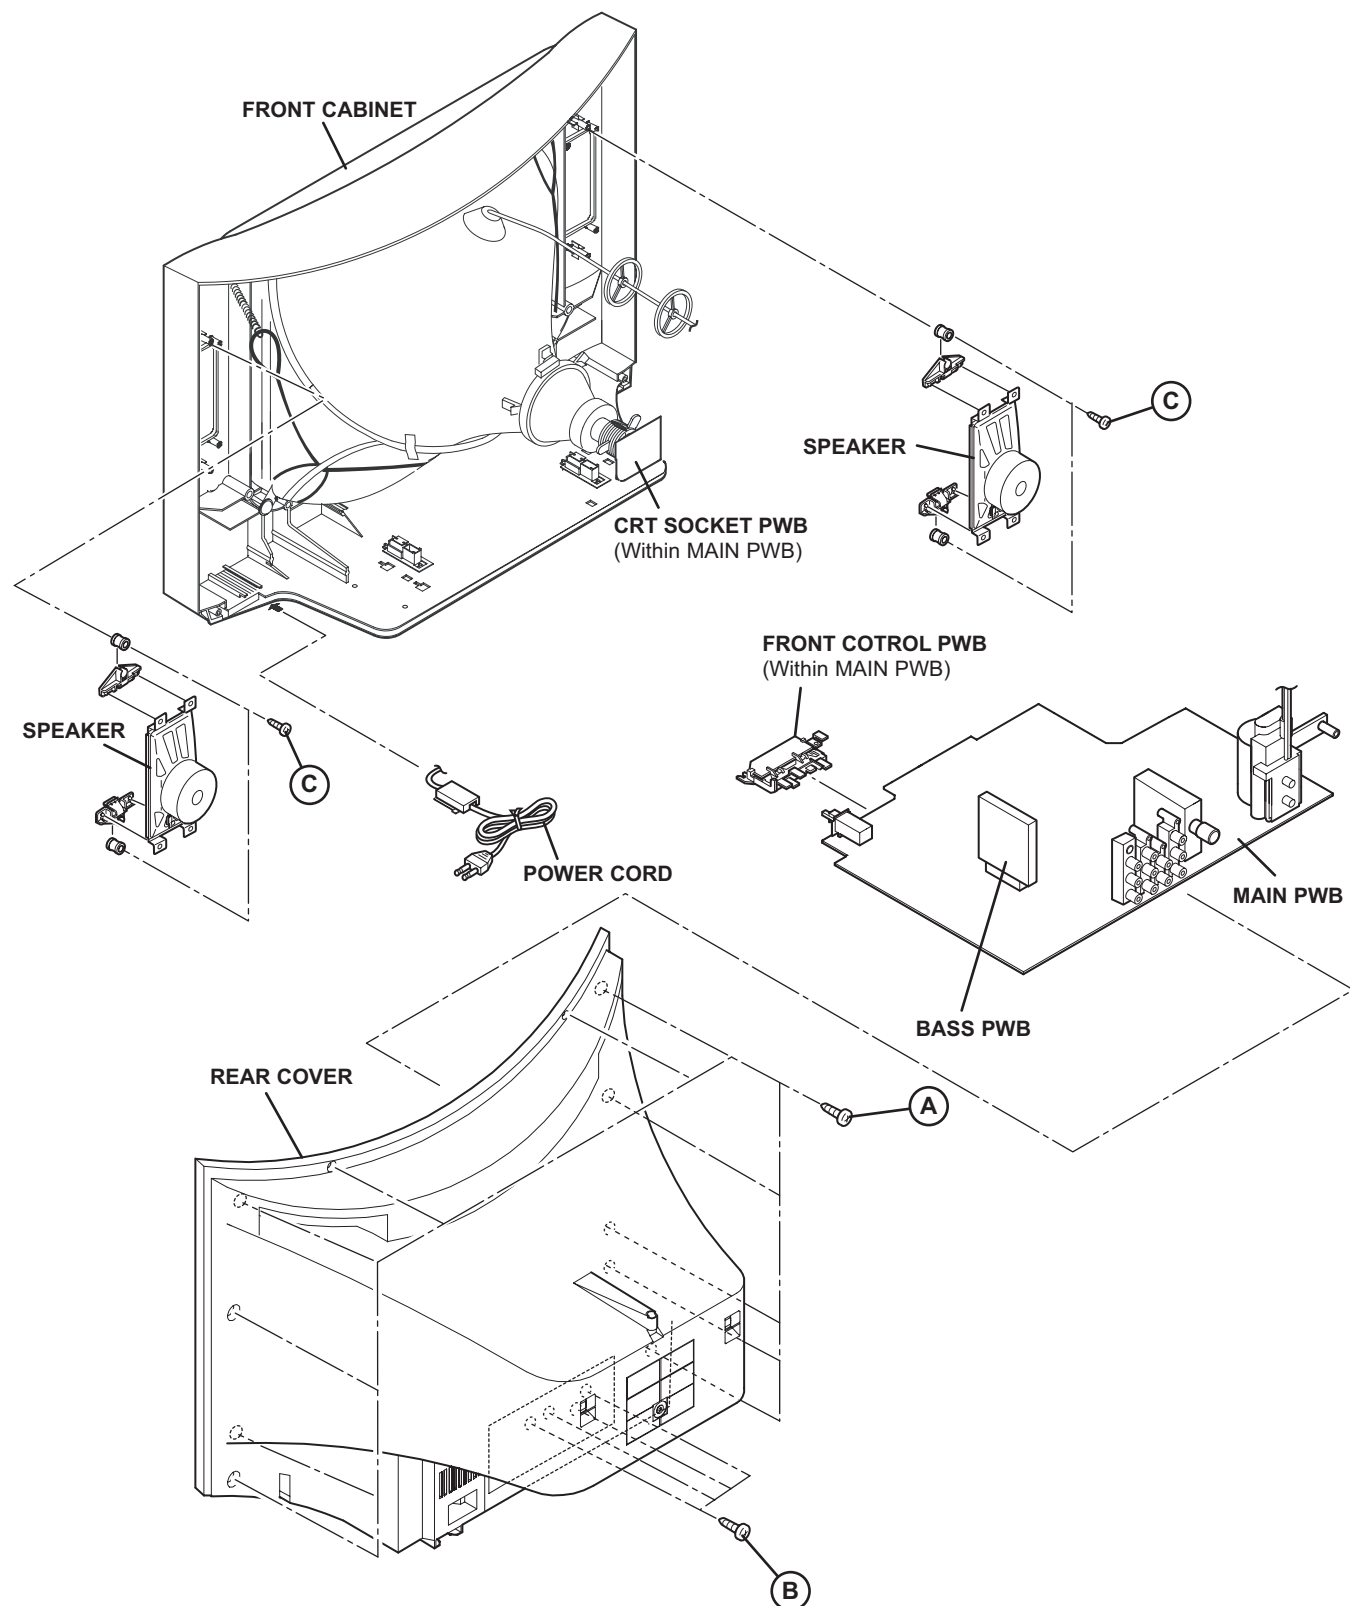

Fig.1
- (1) Remove the 2 screws [C] as shown in Fig.1.
- (2) Follow the same steps when removing the other hand SPEAKER.